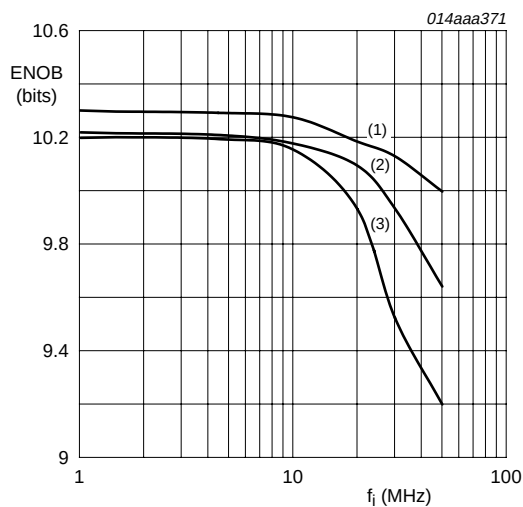

Fig 5. Effective Number Of Bits (ENOB) as a function of input frequency (sample device).
- [7] Effective number of bits are obtained via a fast Fourier transform (FFT). The calculation takes into account all harmonics and noise up to half of the clock frequency (Nyquist frequency). Conversion to Single-to-noise-and-distortion-ratio (SINAD) is given by $SINAD = ENOB \times 6.02 + 1.76 \text{ dB}$; see Figure 5.